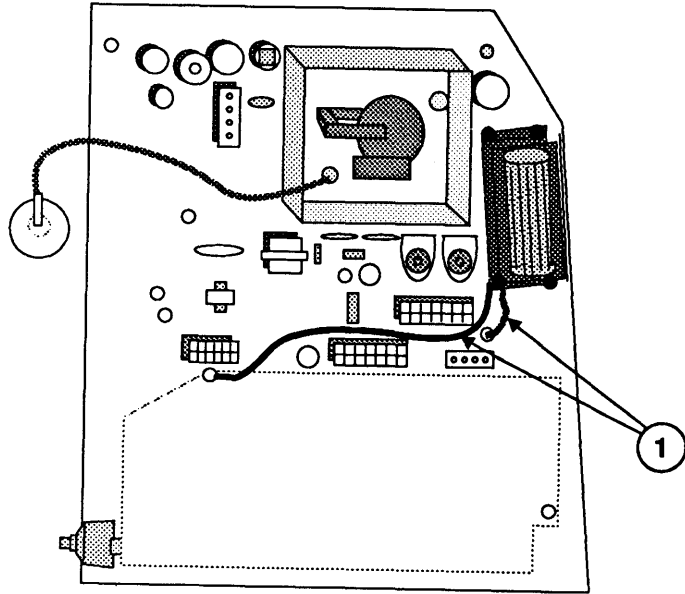
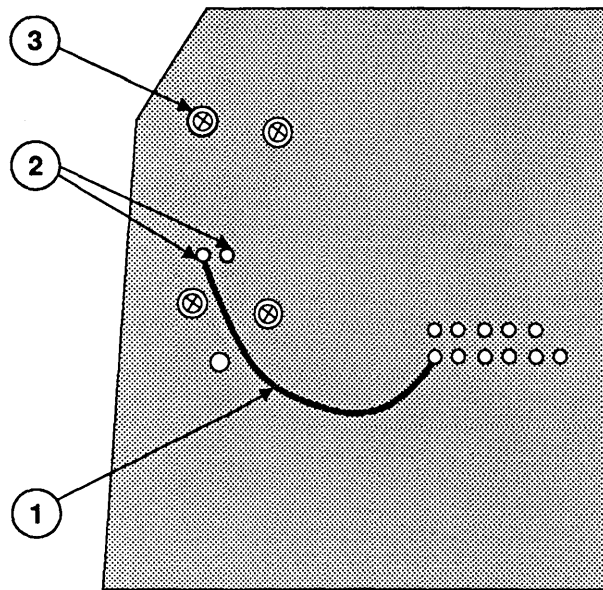

FIGURE 43
FIGURE 44
7. The electrical connection of the fan to the analog board has been achieved in several different ways. In most designs, one or two wires from the fan are soldered to the analog board. First check to see if any wires are present. They may be routed along the front (Figure 43, #1) or the back (Figure 44, #1) of the analog board.
8. Next, locate the two solder points (Figure 44, #2) on the back of the board that connect to the fan, and desolder if there is solder present.
9. Remove the four screws (one is shown at Figure 44, #3) that hold the fan assembly to the analog board and lift the fan off.